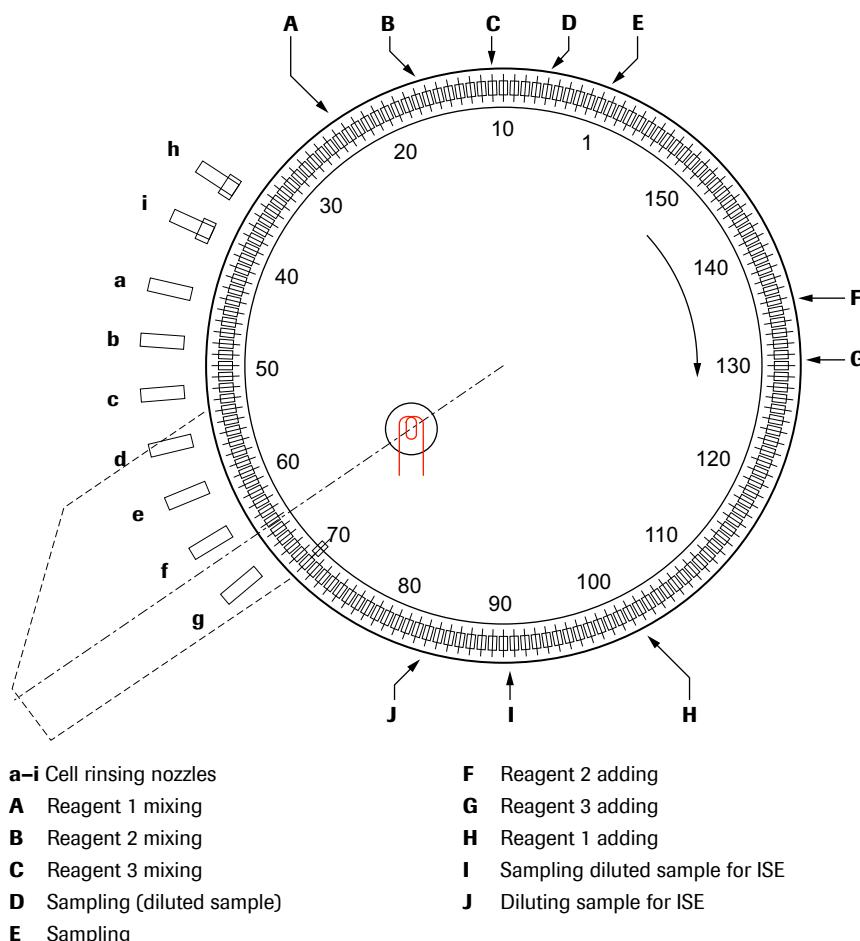

Figure A-39 Main functions and their positions on the reaction disk area
- Figure A-39 on page A-70 shows the main functions and their positions on the reaction disk area.